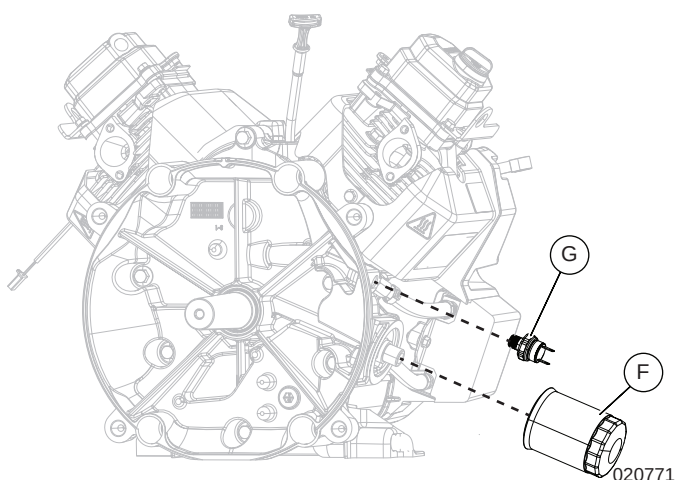

Figure 6-16. Remove Oil Filter and Low Oil Pressure Switch
2. Remove oil drain hose assembly (B) from barbed fitting.
3. Remove barbed fitting (C) from crankcase.
4. See Figure 6-16. Remove oil filter (F) and low oil pressure switch (G) from oil filter mount.